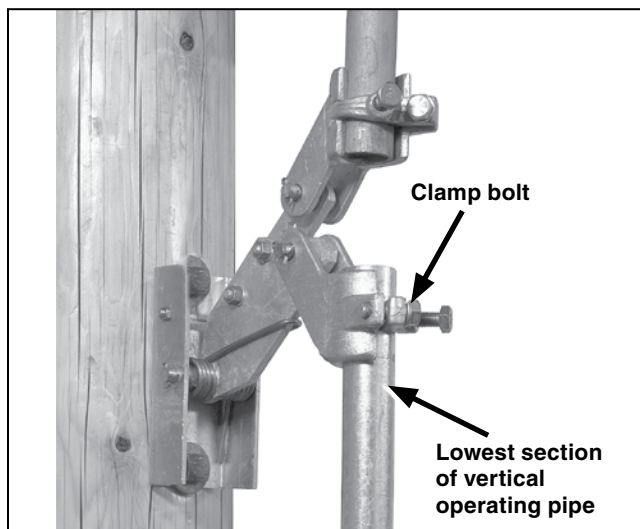

Figure 11. Installing the upper operating pipe section into the rod guide.
STEP 20. Insert the upper end of this pipe section in the lowest rod-guide coupling or—if only one vertical operating-pipe section is used—the coupling attached to the switch drive lever. While holding the operating handle at a point approximately 20 degrees from the **Closed** position, torque the rod-guide coupling (or switch drive-lever coupling) clamp bolt. See Figure 11 on page 15.